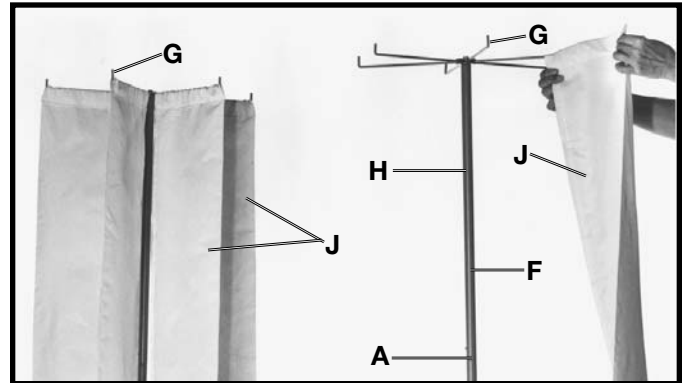

Fig. 24
4. Insert the upper bag support (H) Fig. 24, into the lower bag support (H), making certain the pin (F) in lower bag support engages hole in upper bag support. Assemble the remaining bag support in the same manner.
5. Position top of filter bags (J) Fig. 24, onto both hanger assemblies (G) as shown, until all twelve filter bags are positioned (6 each) on both hanger assemblies.